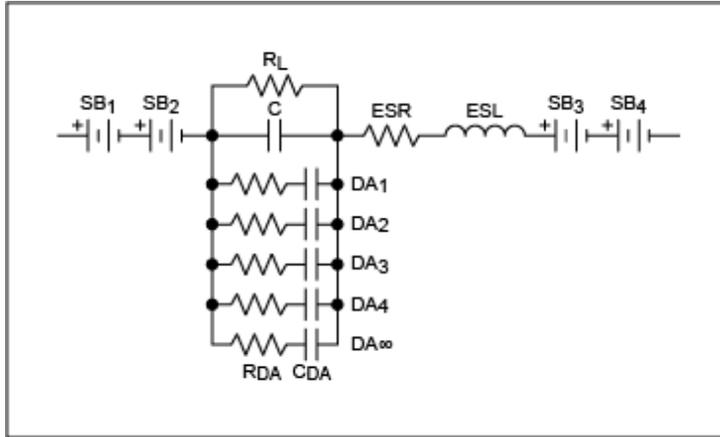

Figure 1. The capacitor (C) and its largest parasitic components.
Passive can be defined as inert and/or inactive. But passive electronic components can become an active part of a circuit in unexpected ways. Consequently, a capacitor that is purely capacitive simply does not exist. All capacitors inherently have parasitic components (**Figure 1**).
Let's take a closer look at the active parasitic components in Figure 1. The capacitor labeled "C" is the one thing that we would like to see; all the rest of the components are unwanted parasitics.1 The parallel resistor,  $R_L$ , causes DC leakage, which can change the bias voltage of the active circuits, spoil the Q factor in filters, and defeat the holding ability of a sample-and-hold circuit.2 The equivalent series resistance (ESR) reduces the capacitor's ability to reduce ripple and pass high-frequency signals because the equivalent series inductance (ESL) creates a tuned circuit (i.e., a circuit with self-resonance). This means that above the self-resonance frequency, the capacitor looks inductive and can no longer decouple high-frequency noise from the power supply to ground. The dielectric can be piezoelectric, adding noise from vibration (AC), which would look like a battery inside the C capacitor (not drawn). The piezoelectric effect from the stress of cooling solder can change the value of the capacitor. Polarized electrolytic capacitors can also have parasitic diodes in series (not drawn) and those diodes can rectify high-frequency signals and change bias or add unwanted distortion.
Now we should say something about self-resonance, the most common capacitor issue with decoupling capacitors and poor grounds. No capacitor can do its job if the ground is poor. Capacitance self-resonance is dominated by the effect of the ESL shown in Figure 1. But do not discount the effect of the PCB vias either. At radio frequencies, those vias will affect the self-resonance point of small capacitors. Examine **Figure 2** and concentrate on the 1 $\mu$ F curve.